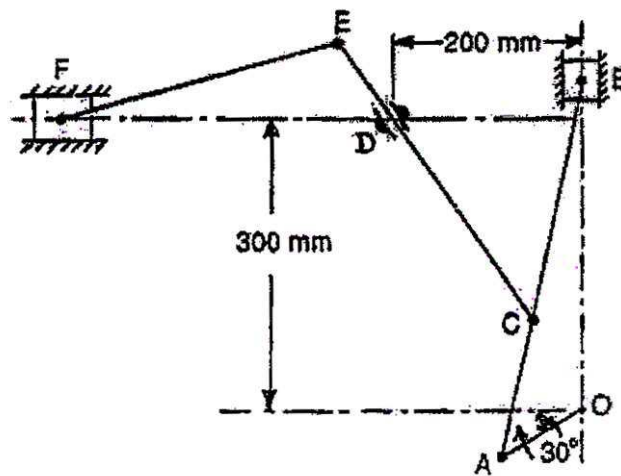

Fig. 2
- 3.** In a mechanism as shown in Fig. 2, the crank OA is 100 mm long and rotates clockwise about O at 120 rpm. The connecting rod AB is 400 mm long. At a point C on AB, 150 mm from A, the rod CE 350 mm long is attached. The rod CE slides in a slot in a trunnion at D. The end E is connected by a link EF, 300 mm